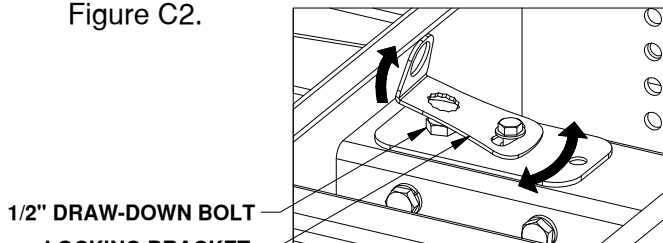

Figure C2: View of top of base.
6. **Secure base.** Secure the base to the truck bed by **first** tightening the eight 1/2" cap screws attaching the socket post into the center of the base to 80 ft-lbs. **Second**, tighten the 1/2" x 3" draw-down bolt to 60 ft-lbs. Lock the draw-down bolt in place by swiveling the locking bracket over the draw-down bolt, see Figure C2.